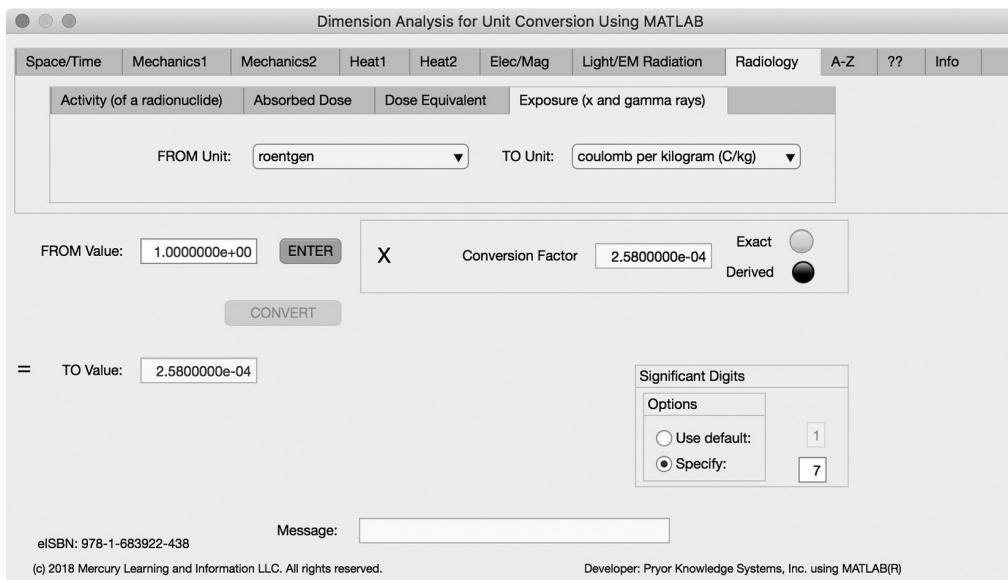

FIGURE 3.8-4 Unit Converter Using MATLAB App - Radiology Exposure (x and gamma rays) Tab.
The fourth Minor Tab under the Radiology Major Tab is the Exposure (x and gamma rays) Tab (see Figure 3.8-4). This example shows the conversion of roentgen (R = lumen per square foot) to coulomb per kilogram (C/kg = lumen per square meter). In this example, the amplitude of roentgen (R) is set equal to one (1.0). The conversion equation is shown in Example 3.8-4.